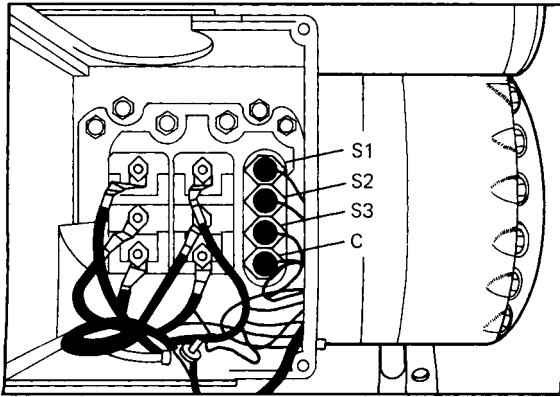

Figure 19-33 Compressor terminal board. (Courtesy of Robertshaw.)
Leads from the internal motor sensors are connected to the compressor terminals, as shown in Fig. 19-33. Leads from the compressor terminals to the control module are connected, as shown in Fig. 19-34. Figure 19-34*a* shows the older model and Fig. 19-34*b* the newer model. While the exact internal circuitry is quite complicated, basically the modules sense resistance changes through the sensors as the result of motor temperature changes in the motor windings. This resistance change triggers the action of the control circuit relay at predetermined opening and closing settings, which causes the line-voltage circuit to the compressor to be broken and completed, respectively.
- a. Remove the wiring connections from the sensor and common terminals on the compressor board (see Figs. 19-33 and 19-34).
In the unlikely event that one sensor is damaged and has an open circuit, the control module will prevent compressor operation even though the motor may be in perfect condition. If such a situation is encountered in the field, as an emergency means of operating the compressor until a replacement is made, a properly sized resistor can be added between the terminal of the open sensor and the common sensor terminal in the compressor terminal box (see Figs. 19-33 and 19-35). This then indicates to the control module an acceptable resistance in the damaged sensor circuit, and compressor operation can be restored. The emergency resistor should be a 2-W, 82- Ω wire wound with a tolerance of ± 5 percent.